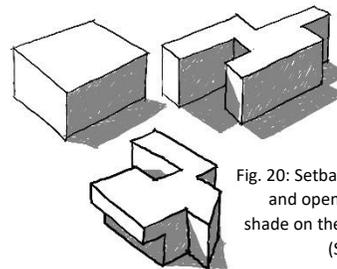

Fig. 20: Setbacks, overhangs, and openings can create shade on the building itself. (Source: Author)
e) **Utilizing building mass to create shade** through the incorporation of overhangs, openings, recesses, or setbacks is a straightforward method to cool specific areas of the building that require lower temperatures and to avoid direct sunlight (Fig. 20).